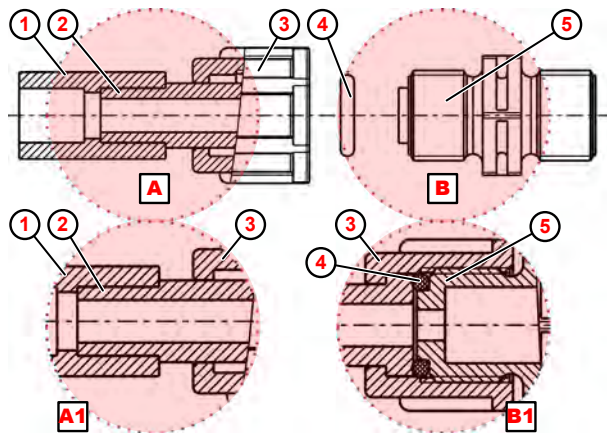

Fig. 20: Pipe connection with weld-on joint
1. ➤ Weld the weld-on concentration (Fig. 20 , ①) to the hose connection.
2. ➤ Place the o-ring ④ in the groove of the suction or pressure valve ⑤ .
3. ➤ Tighten the ③ union nuts (for details, B1).